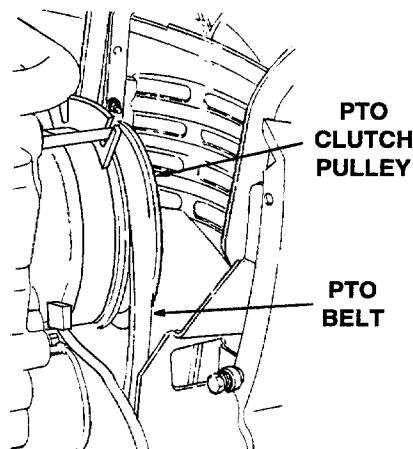

Figure 42
4. Open the tractor hood and remove the forward end of the PTO belt from the PTO clutch pulley (Refer to Figure 42).